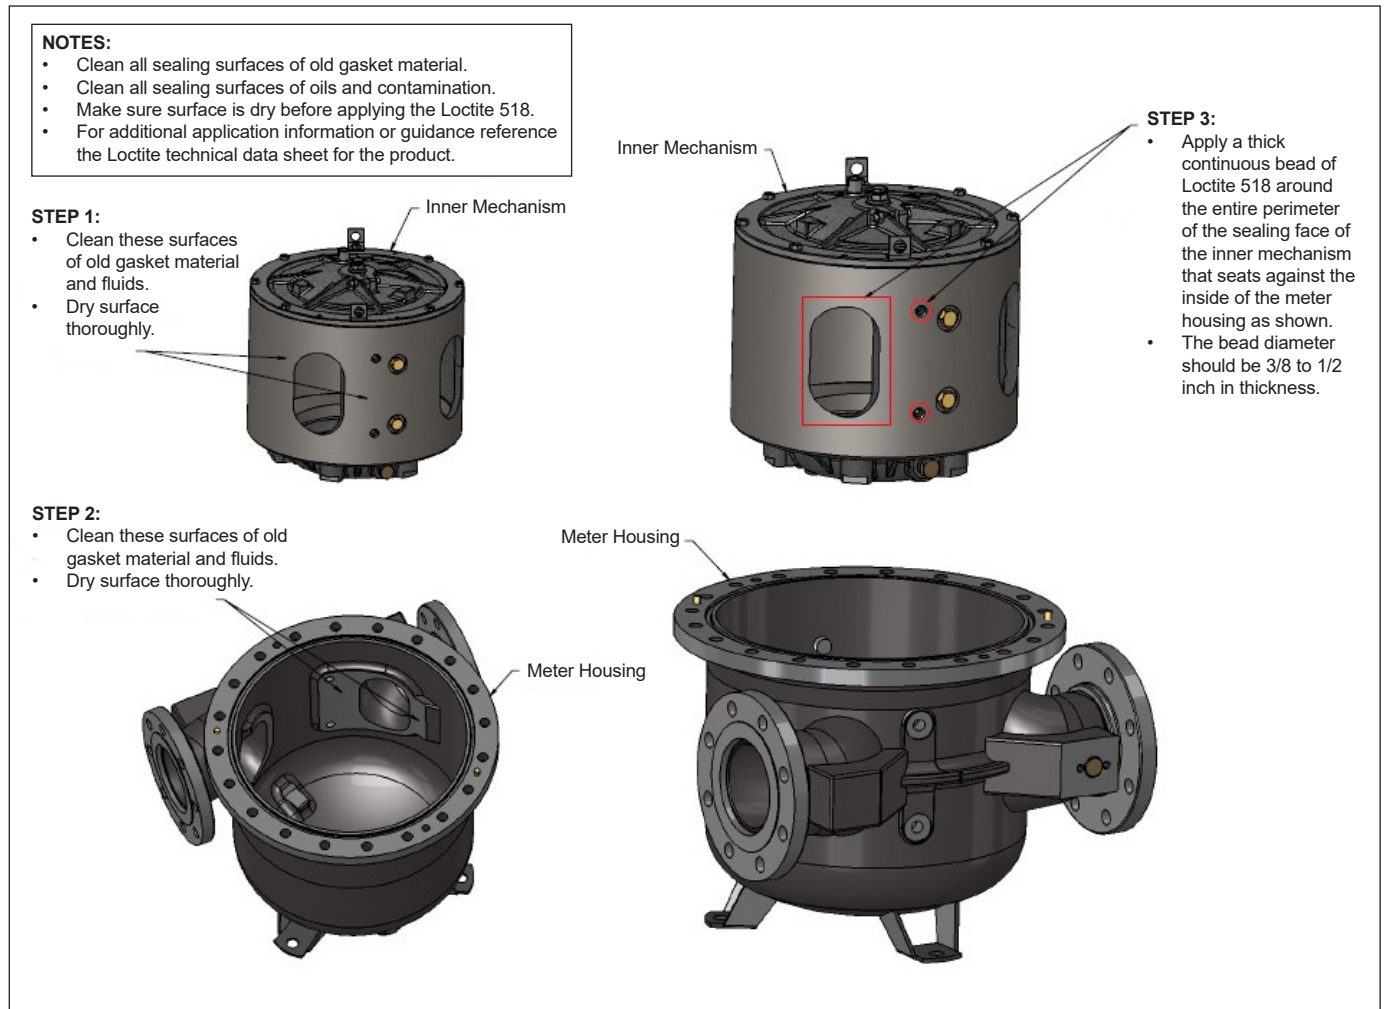

Figure 31 – Inner Mechanism Sealing
- Clean the machined surfaces of the outlet port of the inner unit and outer housing with alcohol or solvent. Do not use a scraper or screwdriver on these surfaces. See Figure 31.
- Coat both surfaces with Loctite 518. (See Figure 31).